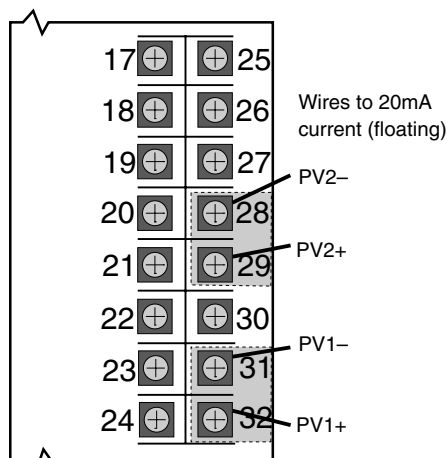

Figure A4.6
1. Remove the thermocouple wires (if present) from terminals 28, 29, 31 and 32. Replace them with pieces of wire that will be connected to a 20 milliamp input current (see *Figure A4.6*). Make sure terminal screws are securely tightened, but do not connect the wires yet (leave inputs floating).
12. Remove the 20mA input from the PV1 terminals, and attach it to the PV2 terminals (see Figure A4.6).